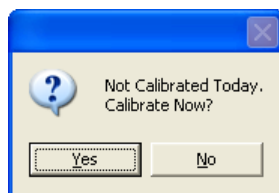
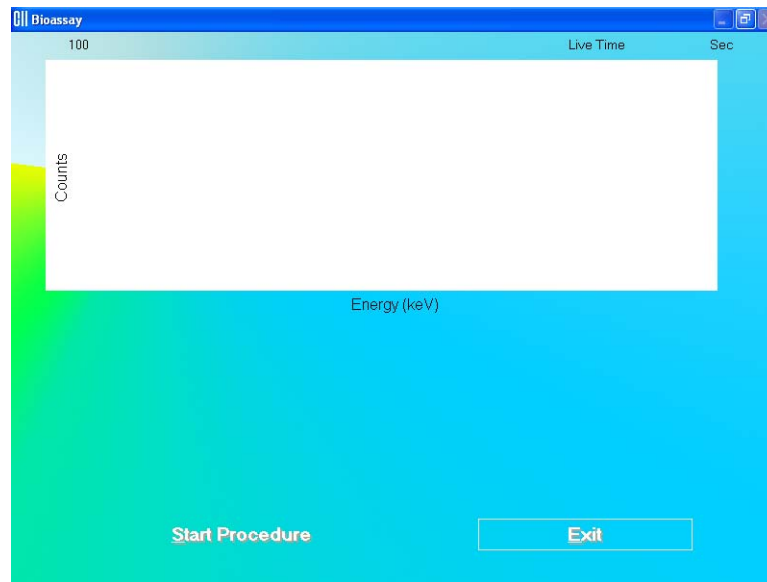

Figure 11-4
Figure 11-5
- iii. Click the **Next** button or press *Alt+N*. The screen appears as shown in Figure 11-5.
**Note:** *If calibration has not been performed, you will be prompted with the screen as shown in Figure 11-4. After the calibration is complete, the program will return to the screen shown in Figure 11-5.*
To abort the procedure, click the **Yes** button or press the Y key. Figure 11-5 will re-appear. Click the **Start Procedure** button to restart the measurement or the **Exit** button to return to the Bioassay Setup screen (Figure 11-2).